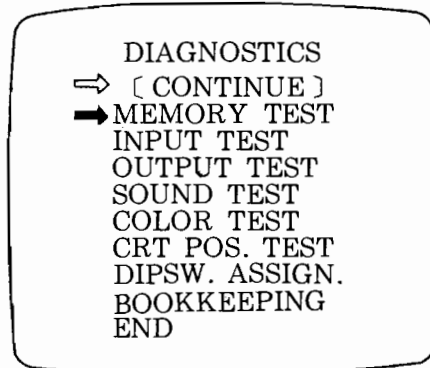

FIG. 8
1) Fig. 8 is shown when TEST SW. is pushed
- 2) When each test is finished in the case of CONTINUE push START button, and it will go into the following test. If START button is pushed in the case of INDIVIDUAL FIG. 8 is shown. If you want to end the test mode at this time, bring the arrow to END and push START button, and it will return to ADVERTISEMENT mode.